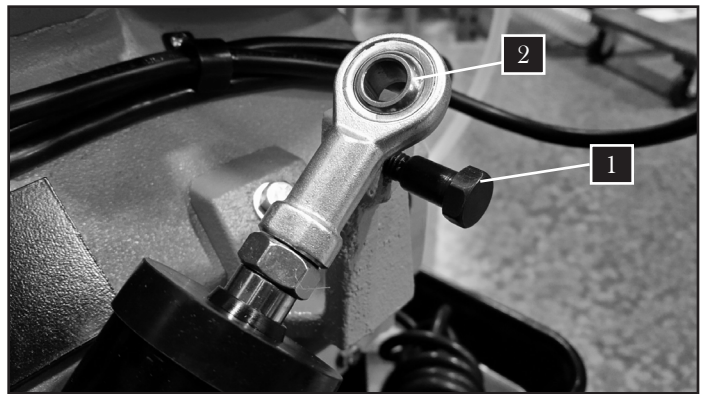

Fig. 5
3. Remove the top bolt (Fig. 5 - 1) from the machine and insert it through the bore on the top of the cylinder (Fig. 5 - 2). Reinstall the bolt and tighten.